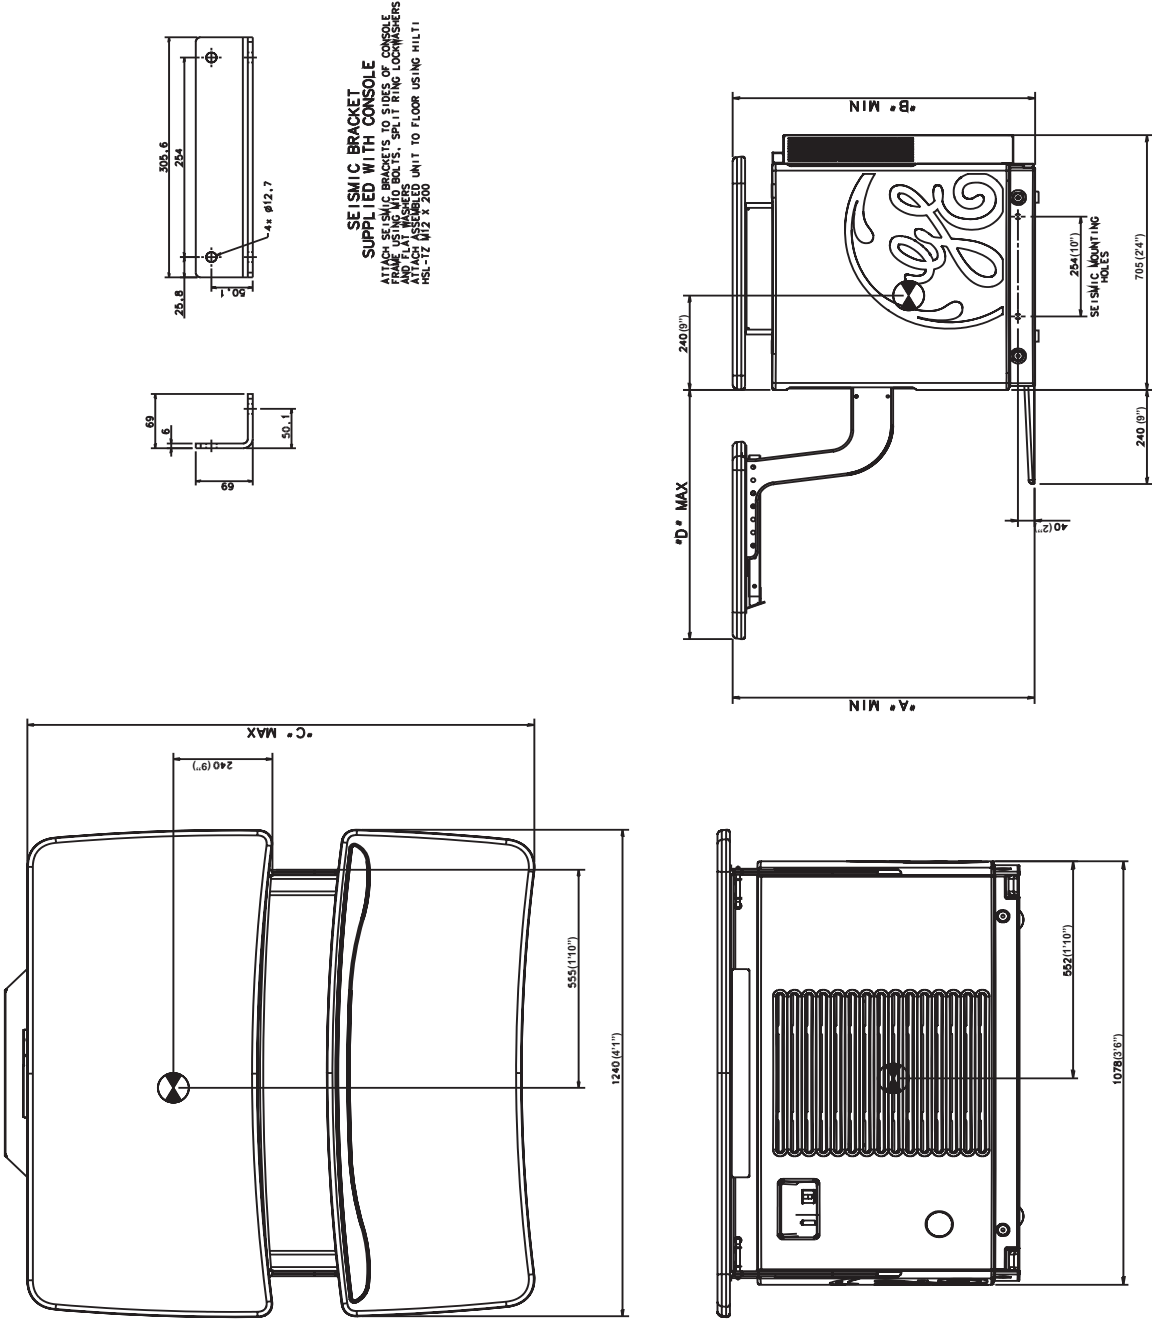

Figure 6-8 Global Operator's Console
- Operator's Console/Computer: Figure 6-8